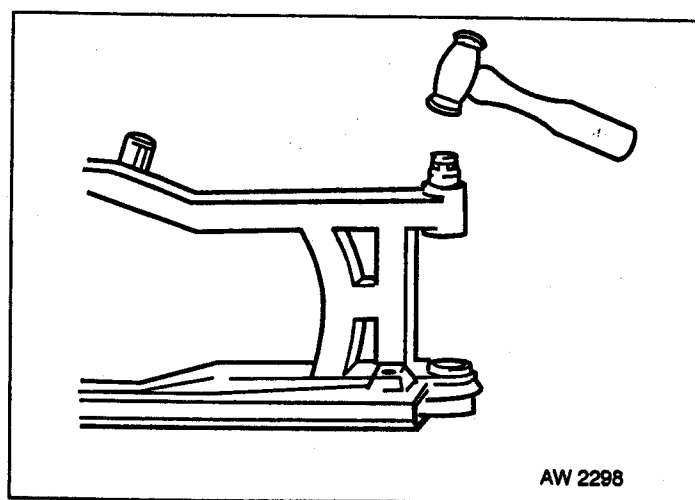

Fig 9.4 Swing Arm Bearing Removal
- (2) Fig 9.4 refers. Use a suitable drift to remove swing arm bearings.